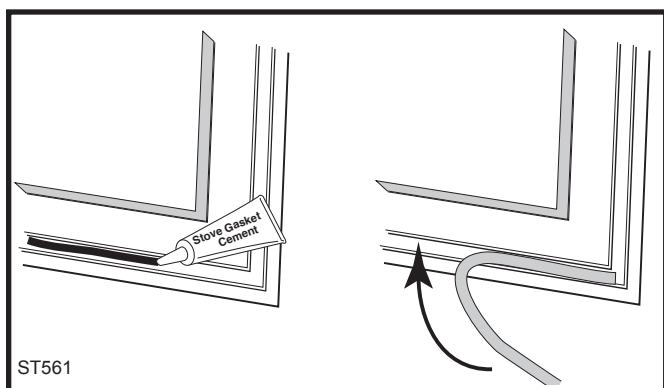

Fig. 47 Lay a bead of gasket cement then press gasket in place.
- Determine the correct length of the appropriate-sized gasket by laying it out in the channel. Allow an extra 1-2" (25-50 mm), and mark the spot to be cut. (Fig. 47)
- Starting at one end, press the gasket into the channel. (Fig. 47) Ensure a good joint where the gasket meets before trimming any excess. Do not overlap the gasket ends or leave ends with ragged edges.